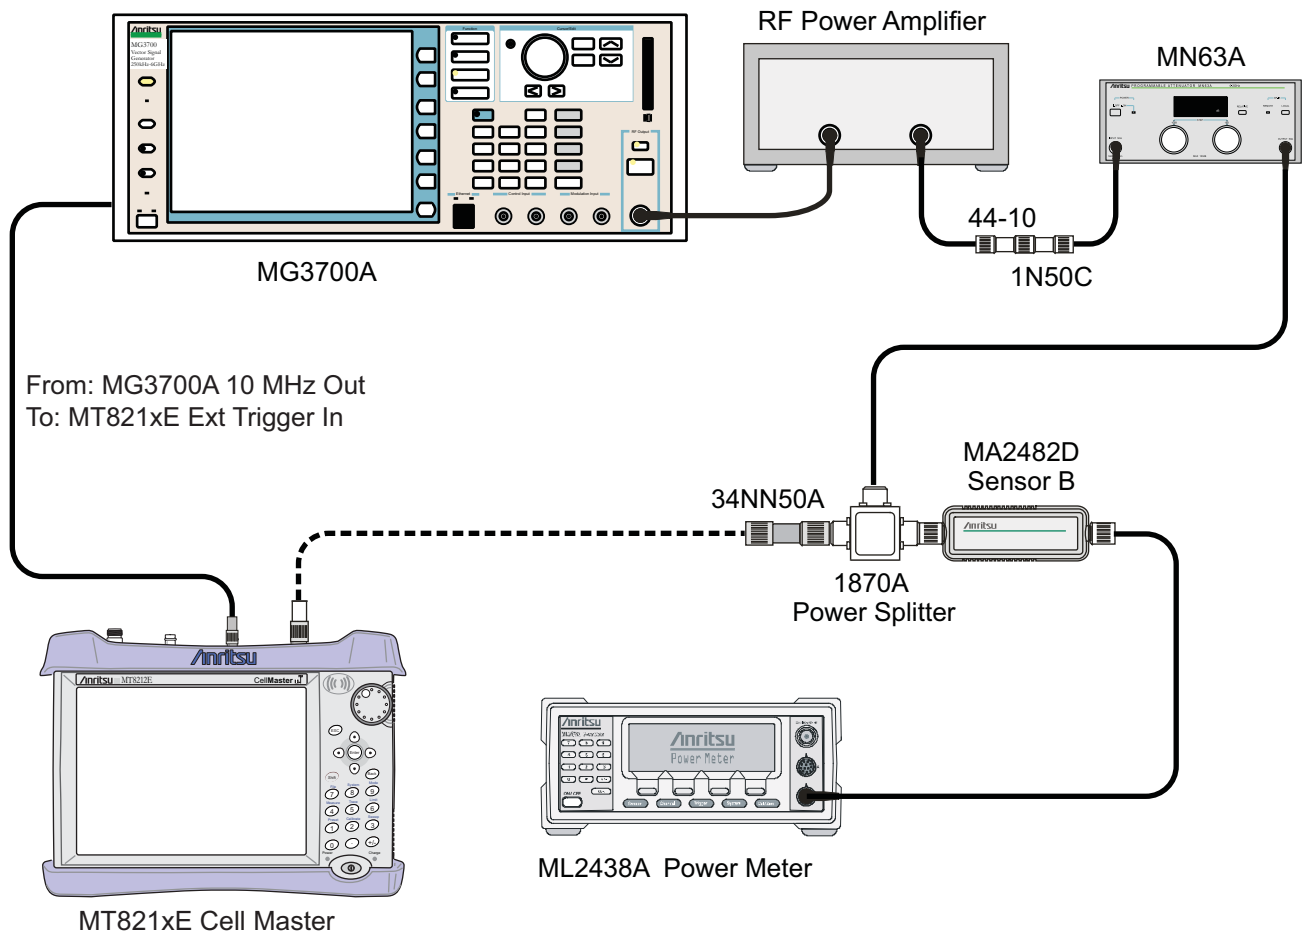

Figure 5-5. ISDB-T SFN Level Accuracy and 1 dB Compression Level Post-test Setup
26. Remove Sensor A from the Power Splitter and then connect the Power Splitter to the MT821xE Spectrum Analyzer RF In with an N male to N male adapter as shown in Figure 5-5 on page 5-21.
13. Remove Sensor A from the splitter and connect the MT821xE RF In to the open end of the splitter using an adapter as shown in Figure 5-5.
42. Remove Sensor A from the splitter and connect the MT821xE RF In to the open end of the splitter using an adapter as shown in Figure 5-5 on page 5-21.
51. Remove Sensor A from the splitter and connect the MT821xE RF In to the open end of the splitter using an adapter as shown in Figure 5-5 on page 5-21.